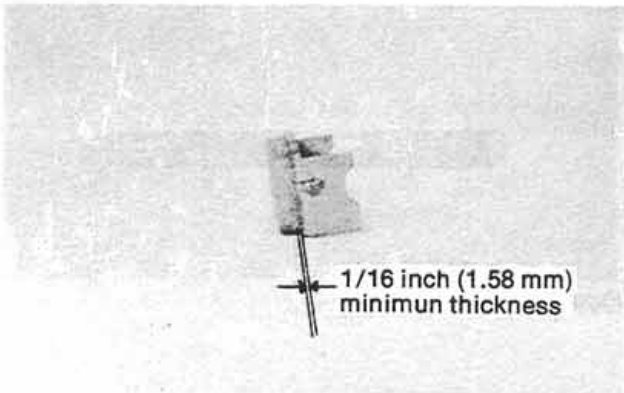

Figure 12:
4. If the brake pads are worn to less than 1/16 inch (1.58 MM) (Fig. 12), or worn unevenly, replace with new pads.